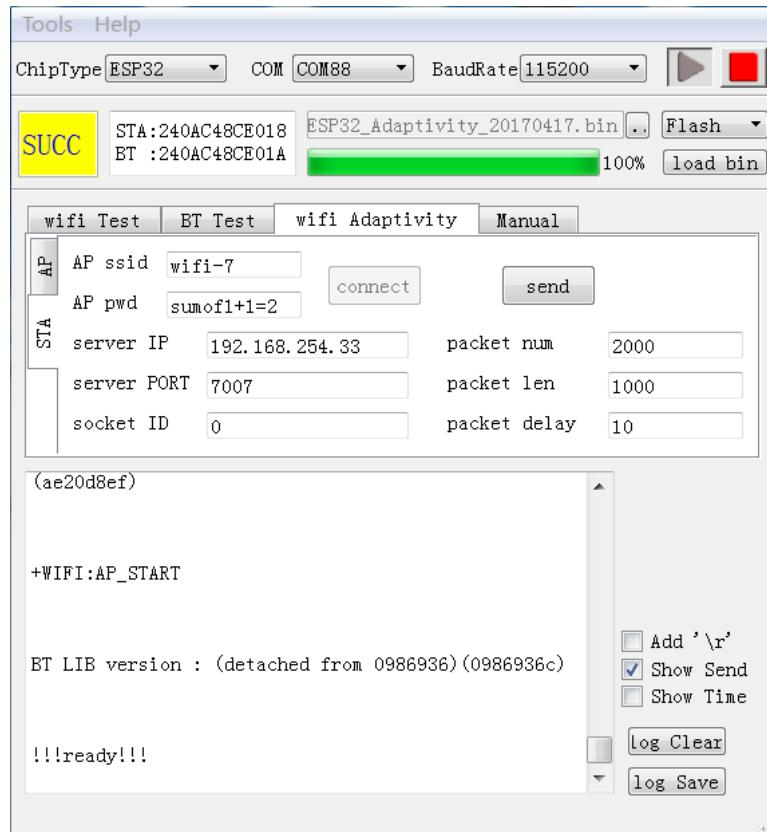

Figure 7-1. Adaptivity Test in STA Mode
- Select **wifi Adaptivity**. For the product in Station mode, the interface is shown in Figure 7-1 below.